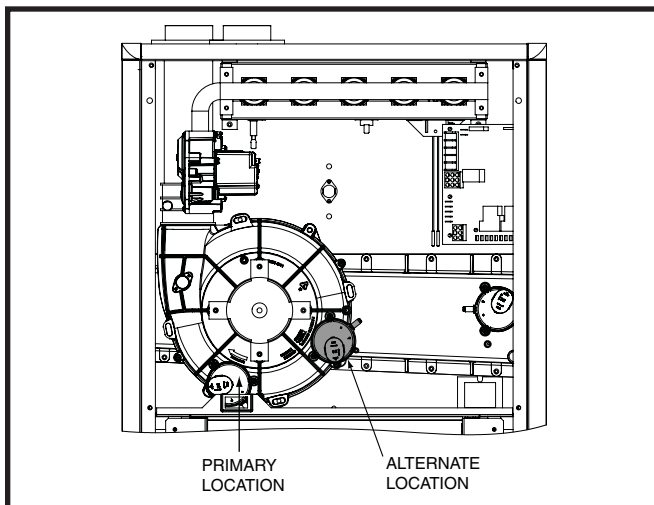

**Figure 10. Inducer Assembly Rotation**
1. Disconnect the electrical harness (1) from the inducer assembly (2) as shown in Figure 10 (page 15).
2. Remove the inducer assembly ground wire (3) from the blower deck (4) or door.
3. Remove three screws (5) securing the inducer assembly (2) to the header box (6).
4. Rotate the inducer assembly (2) to its new position.
5. Secure the inducer assembly (2) to the header box (6) by reinstalling the three screws (5). If the inducer assembly is rotated to the left or right side of the furnace, use the extra screw provided in the parts package.
6. Remove the cabinet plug (7) from side of furnace and reinstall in hole on opposite side of cabinet.